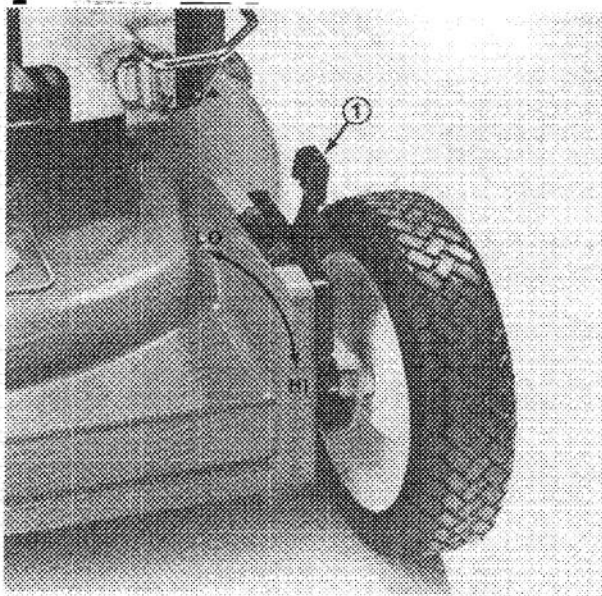

Figure 8
Height-of-Cut Adjusters (Fig. 8) — Height-of-cut is adjustable to one of six approximate settings: 3/4 inch (19 mm), 1-1/4 inches (32 mm), 1-3/4 inches (45 mm), 2-1/4 inches (60 mm), 2-3/4 inches (70 mm) or 3-1/4 inches (83 mm).
2. Place thumb against height-of-cut adjuster and fingers on outside of wheel (Fig. 8).